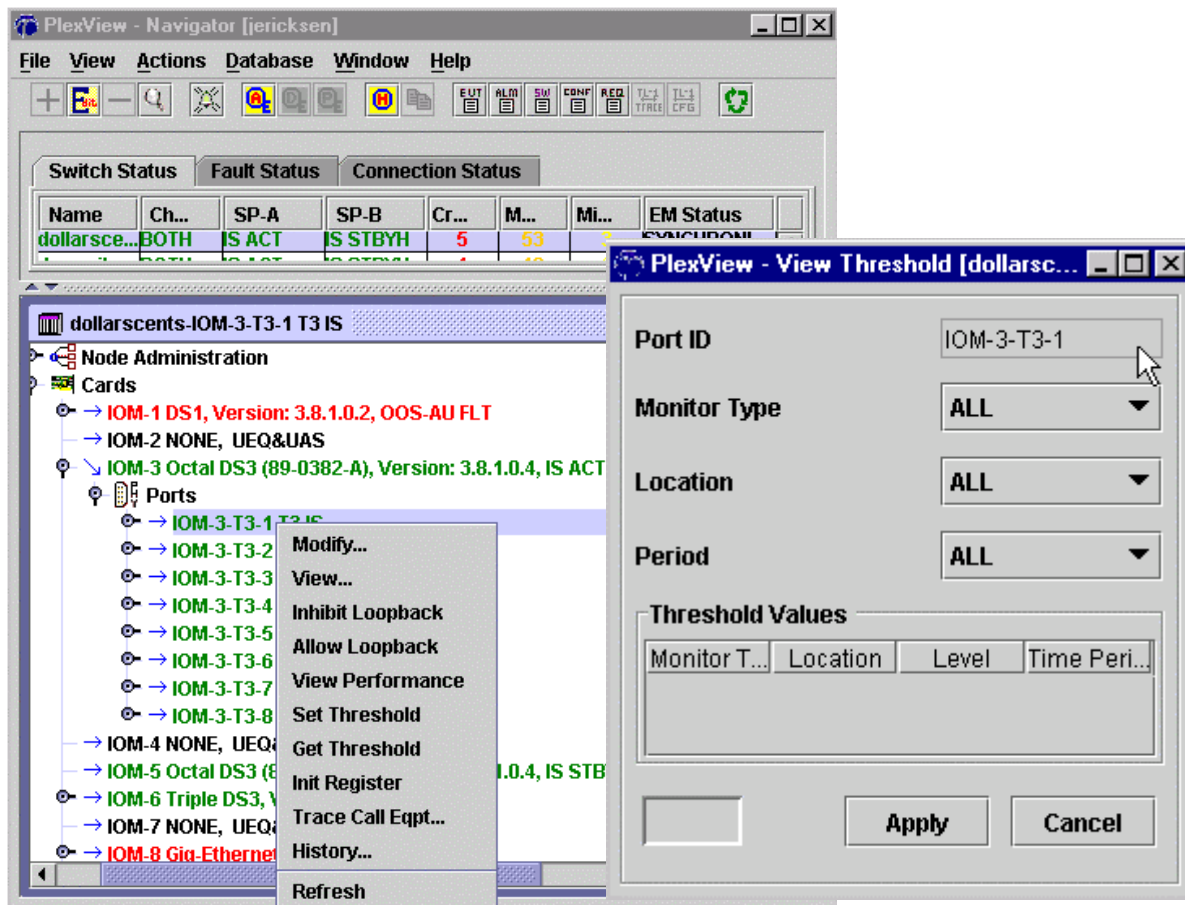

Figure 6. Get T3 PM Thresholds
14. Retrieve the current threshold level of one or more monitored performance. Double-click *Switch*, *Switch name*, *Cards*, desired *IOM*, and *Ports*.. Right-click desired port, select *Get Threshold*. Make changes if necessary and then click *Ok*. Refer to Figure 6.